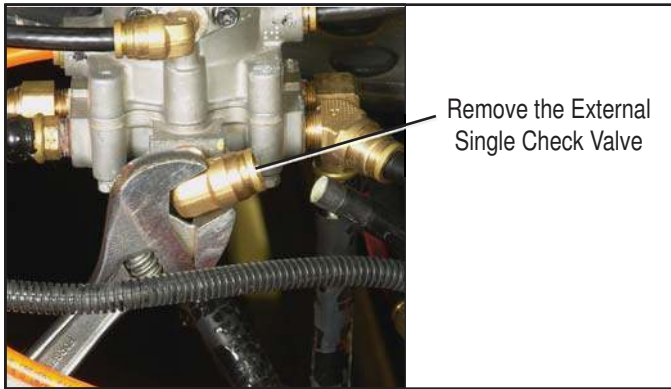
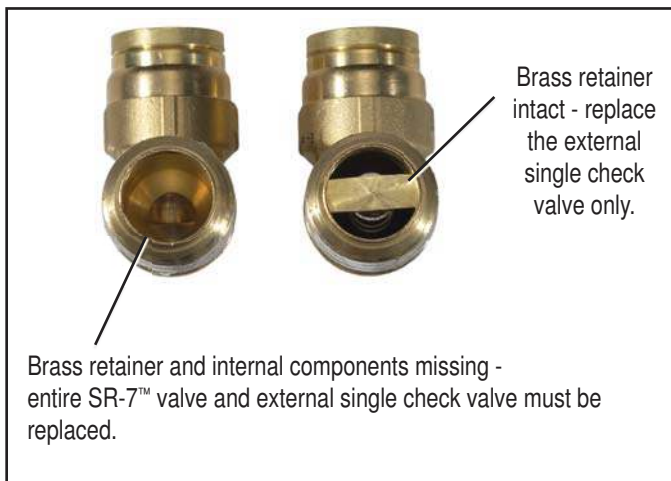

Figure 4- REMOVING THE EXTERNAL SINGLE CHECK VALVE
Figure 6 - PARKER SINGLE CHECK VALVE
5. Note the orientation of and remove the external check valve. Refer to Figures 4 and 5. **IMPORTANT: Inspect the outlet (threaded side) of the Parker single check valve to ensure the presence of check valve components. Verify that the brass retainer is present and intact. Refer to Figure 6.**